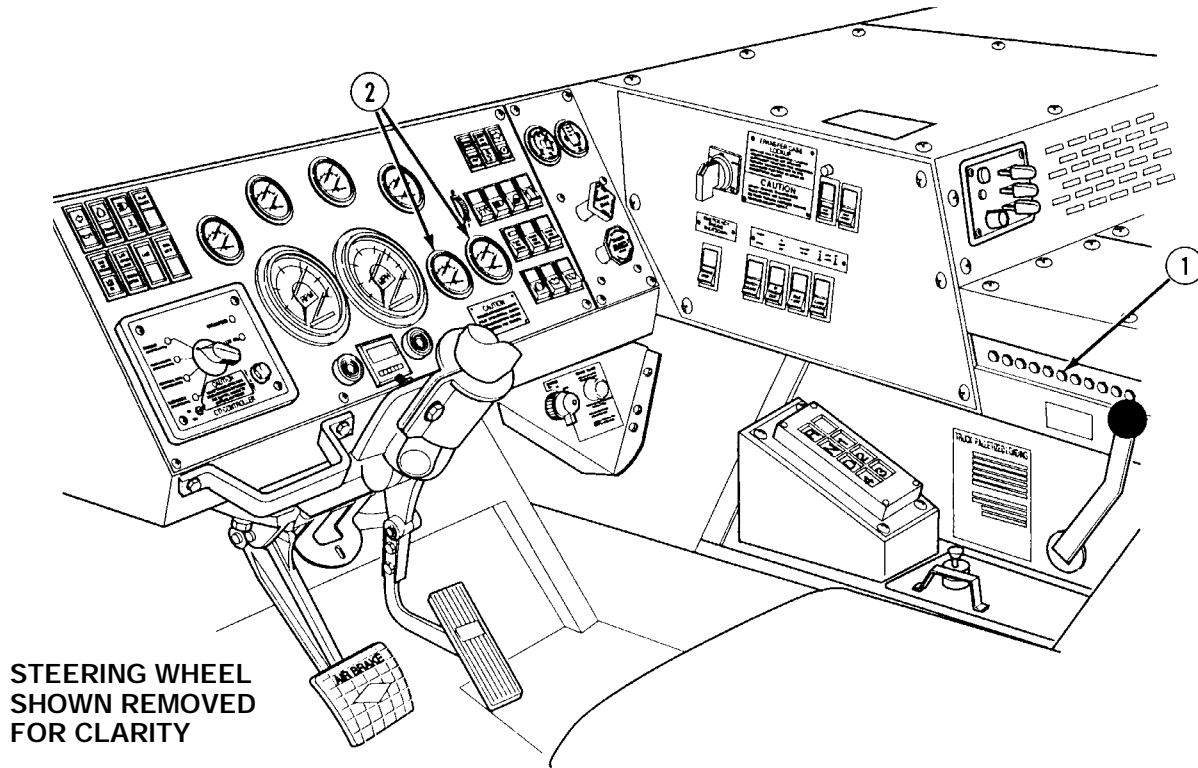

Figure 1-9. Electrical System
The 24 VDC electrical system (Figure 1-9) is waterproof, has reverse polarity protection and incorporates a 12 VDC lighting subsystem. Manual resetting circuit breakers (1) are used throughout the system and all circuits are identified. The voltages for the electrical system are indicated by two voltmeters (2) located on the dash panel inside the drivers compartment. Circuit breakers located in the cab protect the main circuits.